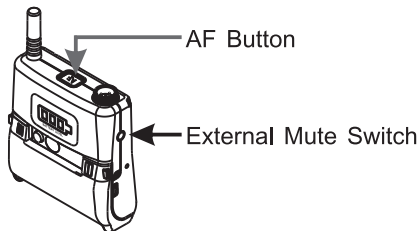

Fig. 33
(E) Mute Mode Setting, Fig. 33:
- (1) Press AF button to activate mute mode and the indicator dims. All the operations are the same as default mode.
- (2) Press AF button again to deactivate the mute mode and the indicator is lit.
(F) External Mute Switch connector, Fig. 33: